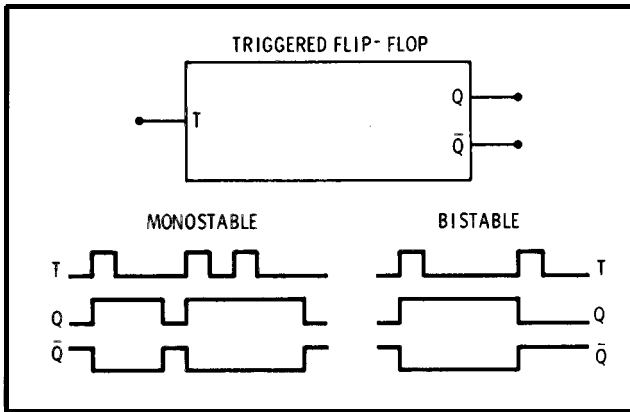

Figure 8-5. Triggered Flip-Flop
**8-45. Triggered Flip-Flop.** There are two kinds of triggered flip-flops. The bistable triggered flip-flop toggles (changes states) each time the trigger input (T) changes states (shown in Figure 8-5). This effectively divides the input by two, giving one output pulse at the Q output for every two input pulses.